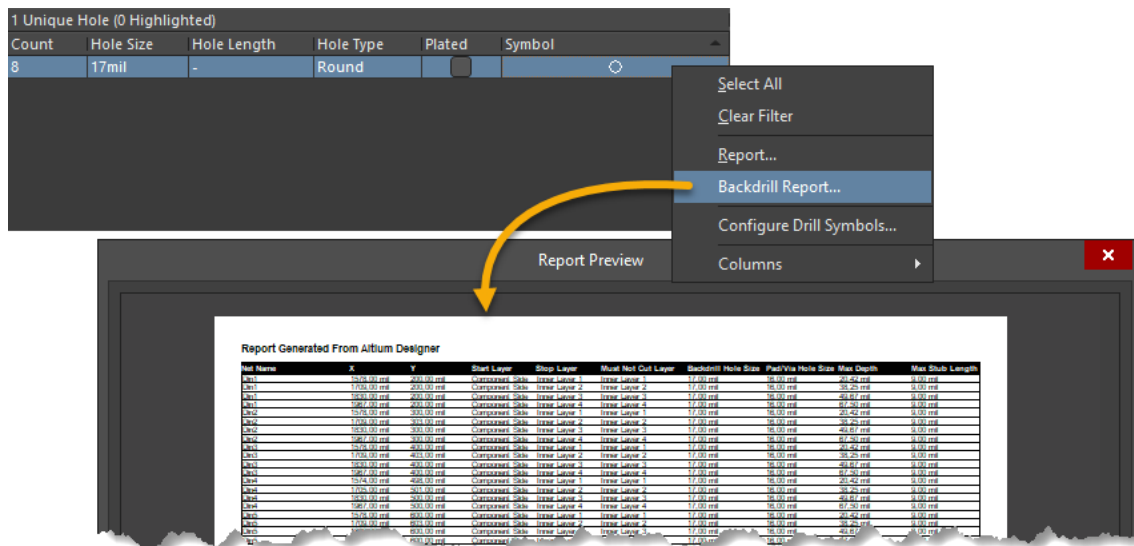

Figure 14. Back Drill Report
29. Right-click on the *Hole Information* pane to generate a **Backdrill Report...**, Figure 14.